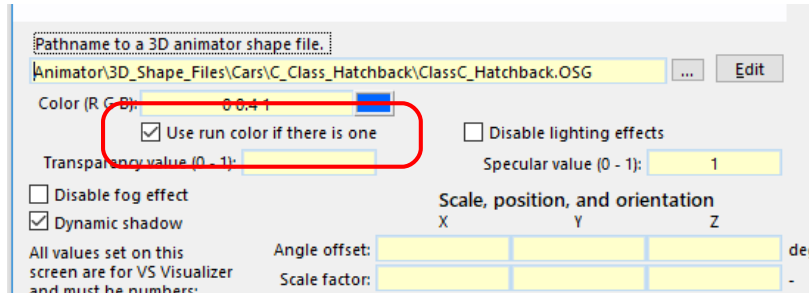

Figure 10. Checkbox on animation screens to “Use run color if there is one”.
The selected color does not affect the image shown on the run screen (21) because that image is part of the link to the vehicle dataset (1). The selected color will also not affect the animation unless the animator shapes for the vehicle have the corresponding box checked: **Use run color if there is one** (Figure 10).